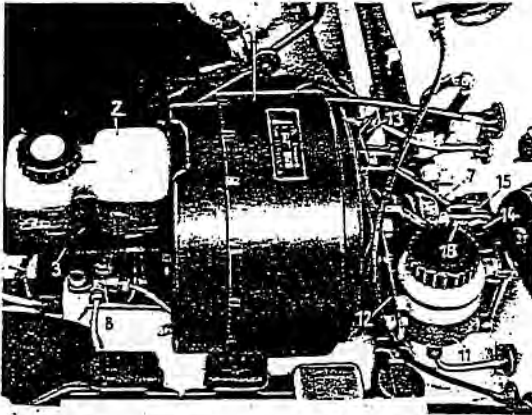

Fig. 42-16/3
4. On Model 230 SL detach the piston rod (18) of the power brake (1) from the relay lever (15) by backing out the adjusting screw (14) (Fig. 42-16/3).
5. On all other models detach the piston rod of the power brake from the brake pedal (9) by backing out the adjusting screw (2) (Fig. 42-16/6).
6. On all models with the exception of Model 230 SL remove the power brake (1) together with the intermediate flange (6). To do this, back out two hexagon nuts in the engine compartment and one hexagon nut in the passenger compartment (Fig. 42-16/5).